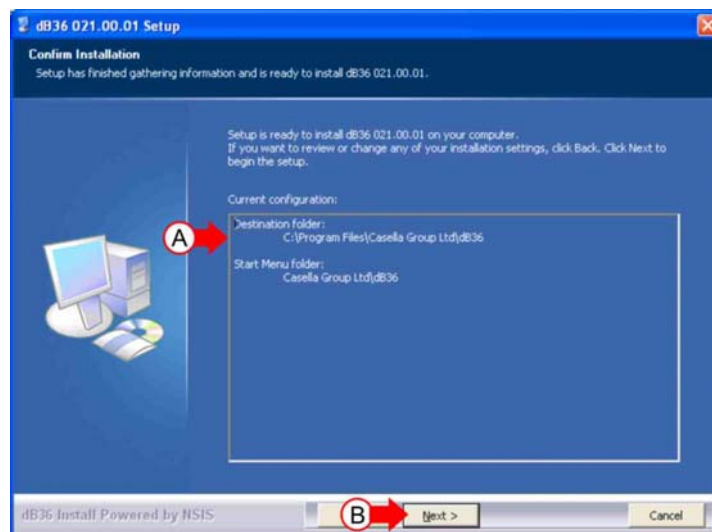

Figure 5 Setup is Ready to begin Installation
12. Setup is now ready to install the dB36 Program. Check the Destination Folder and Setup Menu Folder (A) are what you want and press **Next** (B) to begin Installation (Refer to Figure 5).